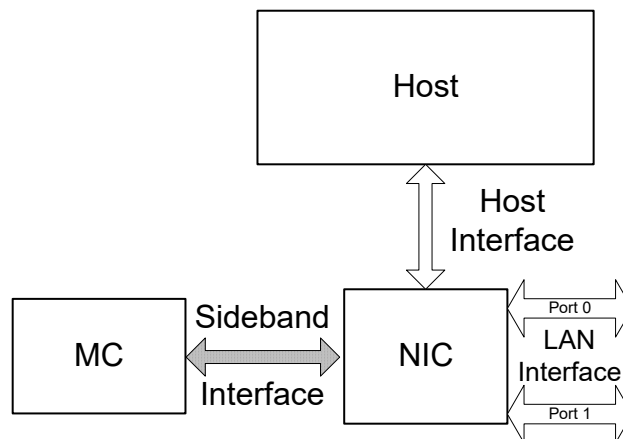

Figure 11-1. Sideband Interface
Pass-Through (PT) is the term used when referring to the process of sending and receiving Ethernet traffic over the sideband interface. The X550 has the ability to route Ethernet traffic to the host operating system as well as the ability to send Ethernet traffic over the sideband interface to an external BMC. See Figure 11-1.